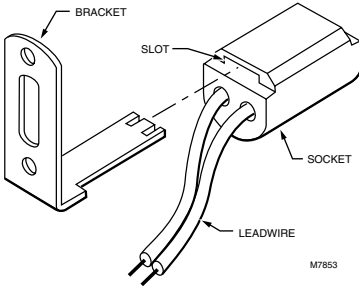

Fig. 3. Insert mounting bracket into socket slot.
- 3 Insert the mounting bracket into the socket slot (Fig. 3) as far as it will go.
- 3 Insert the mounting bracket into the slot on the socket (Fig. 3) as far as it will go.